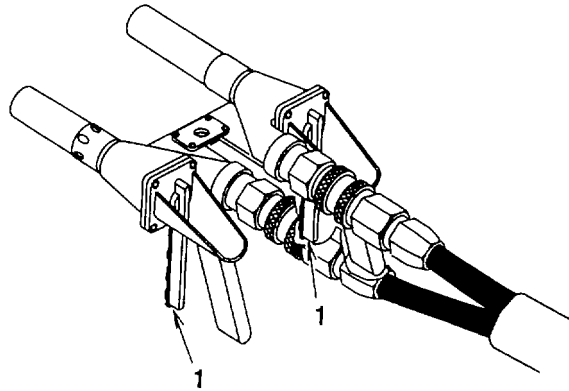

Figure 2-17. Fire Hose Nozzles
(5) Slowly squeeze fire hose nozzle valve levers (1) (fig. 2-17) one at a time until each hose is cleared. The fire hose nozzle should discharge gas only for 10 seconds.
(8) Squeeze both fire hose nozzle valve levers (1) (fig. 2-17) to relieve system pressure